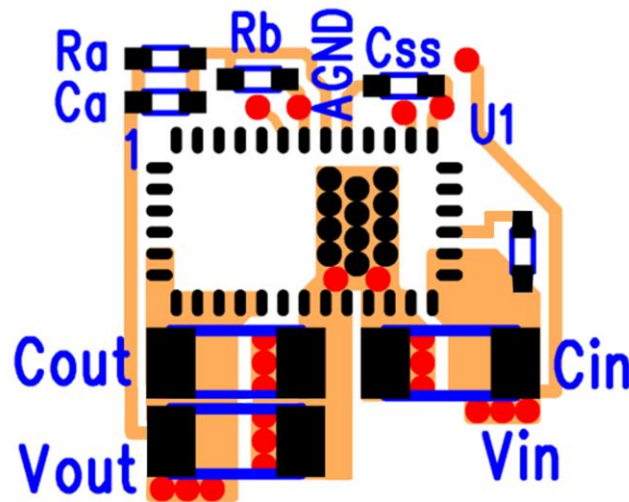

Figure 10: Top PCB Layer Critical Components and Copper for Minimum Footprint (Top View)
Figure 10 shows critical components and layer 1 traces of a typical EN6347QA layout with ENABLE tied to  $V_{IN}$  in PWM mode. Alternate ENABLE configurations and other small signal pins need to be connected and routed according to specific customer application. Please see the Gerber files on the Altera website [www.altera.com/powersoc](http://www.altera.com/powersoc) for exact dimensions and other layers. Please refer to this Figure while reading the layout recommendations in this section.
**Recommendation 2:** Three PGND pins are dedicated to the input circuit, and three to the output circuit. The slit in Figure 10 separating the input and output GND circuits helps minimize noise coupling between the converter input and output switching loops.
**Recommendation 5:** Multiple small vias (the same size as the thermal via discussed in recommendation 4) should be used to connect ground terminal of the input capacitor and output capacitors to the system ground plane. It is preferred to put these vias under the capacitors along the edge of the GND copper closest to the +V copper. Please see Figure 10. These vias connect the input/output filter capacitors to the GND plane, and help reduce parasitic inductances in the input and output current loops. If the vias cannot be placed under  $C_{IN}$  and  $C_{OUT}$ , then put them just outside the capacitors along the GND slit separating the two components. Do not use thermal reliefs or spokes to connect these vias to the ground plane.
**Recommendation 6:** AVIN is the power supply for the internal small-signal control circuits. It should be connected to the input voltage at a quiet point. In Figure 10 this connection is made at the input capacitor close to the  $V_{IN}$  connection.
**Recommendation 7:** The layer 1 metal under the device must not be more than shown in Figure 10. See the section regarding exposed metal on bottom of package. As with any switch-mode DC-DC converter, try not to run sensitive signal or control lines underneath the converter package on other layers.
Only the thermal pad and the perimeter pads are to be mechanically or electrically connected to the PC board. The PCB top layer under the EN6347QA should be clear of any metal (copper pours, traces, or vias) except for the thermal pad. The “shaded-out” area in Figure 10 represents the area that should be clear of any metal on the top layer of the PCB. Any layer 1 metal under the shaded-out area runs the risk of undesirable shorted connections even if it is covered by soldermask.